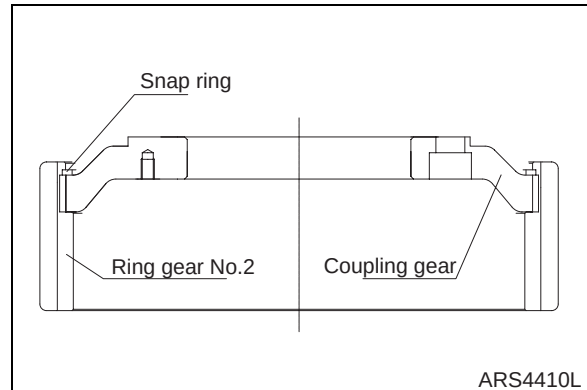

Figure 76
1. Position ring gear No.2 (4) on working stand as shown in Figure 76.
2. Install coupling gear (5) from upper side.
3. Install snap ring (21) in groove of ring gear No.2 (4). Make sure ring is properly seated.